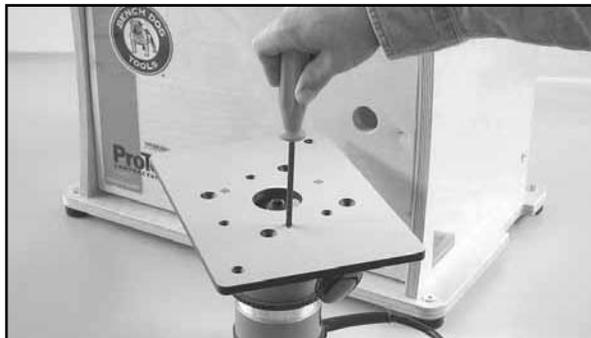

Fig. 17
19. Mount router to the insert plate. This insert plate is predrilled to fit most popular routers, and comes with proper mounting screws for these routers. **Fig. 17**. In some cases, you must drill your own holes and purchase your own mounting screws. Please refer to the included template (11) to complete this step.